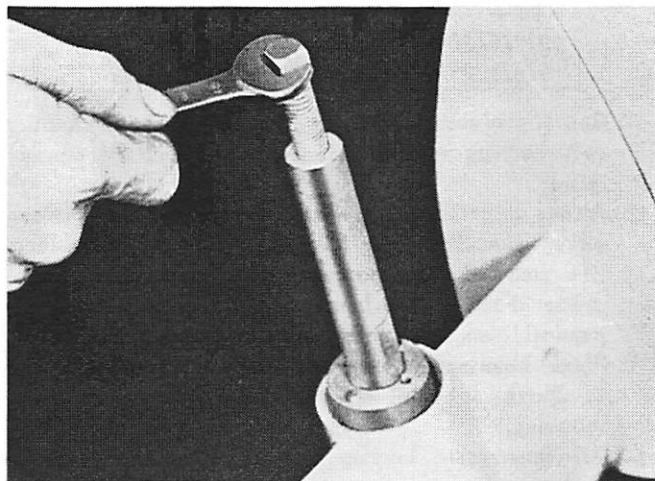

Figure 1. Removing Water Pump Cartridge
14. Apply pressure to center screw of tool against propeller shaft by turning down with wrench. (Figure 1) When loose, remove water pump cartridge, neoprene seal and sealing ring.